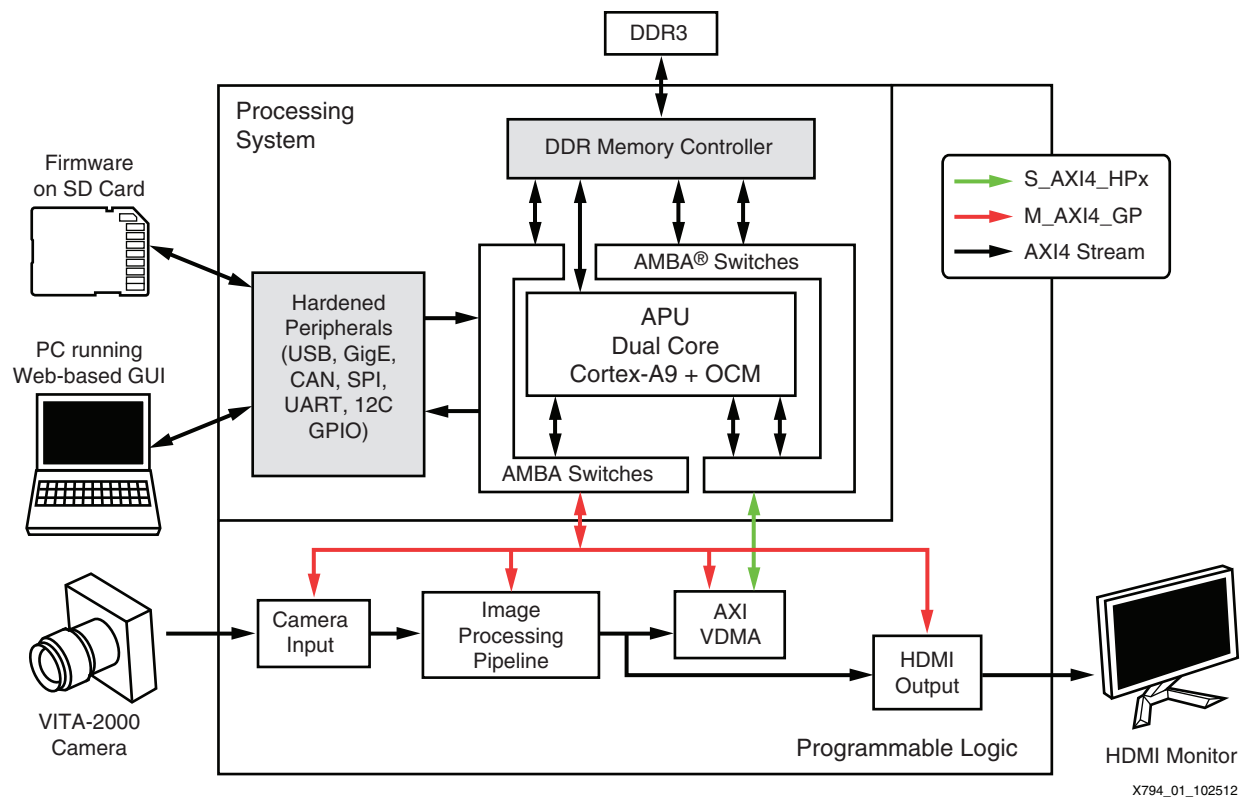

Figure 1: 1080p60 Camera Design Block Diagram
Video input is generated by the VITA-2000 image sensor from ON Semiconductor, which is configured for 1080p60 resolution. The raw Bayer sub-sampled image is converted to an RGB image by an image processing pipeline implemented using LogiCORE™ IP video cores that remove defective pixels, de-mosaic, and color-correct the image. A video frame buffer is implemented in the processing system (PS) DDR3 memory, making images accessible to the ARM® processor cores via the AXI Video Direct Memory Access (VDMA). The video frame buffer is not required for the operation of the image processing pipeline, but is included in the design to enable the capture of input video images for analysis. Figure 1 shows a block diagram of the design.